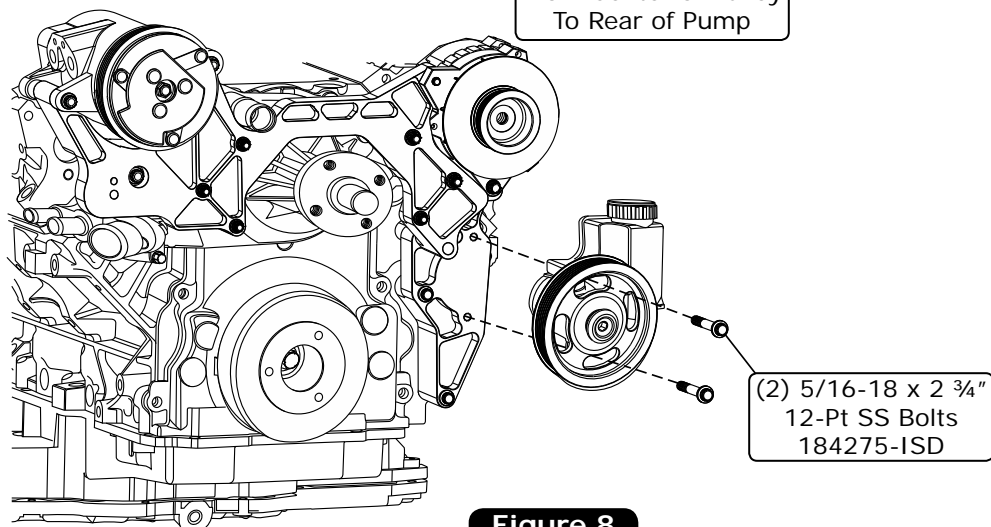

Figure 8
2. Install the power steering pump using (2) 5/16-18 x 2 3/4" 12-Pt SS bolts (See Figure 8, below). Torque to 28 lb ft.